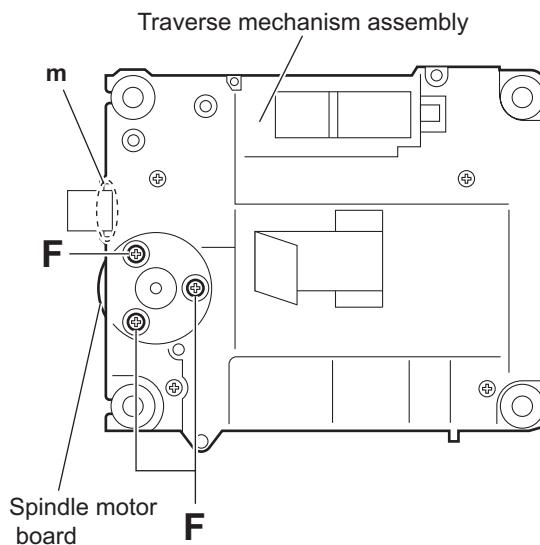

Fig.9
- (2) From the bottom side of the traverse mechanism assembly, remove the three screws **F** attaching the spindle motor board. (See Fig.9.)
- When attaching the spindle motor board, pass the wire through the section **m** on the traverse mechanism assembly. (See Fig.9.)